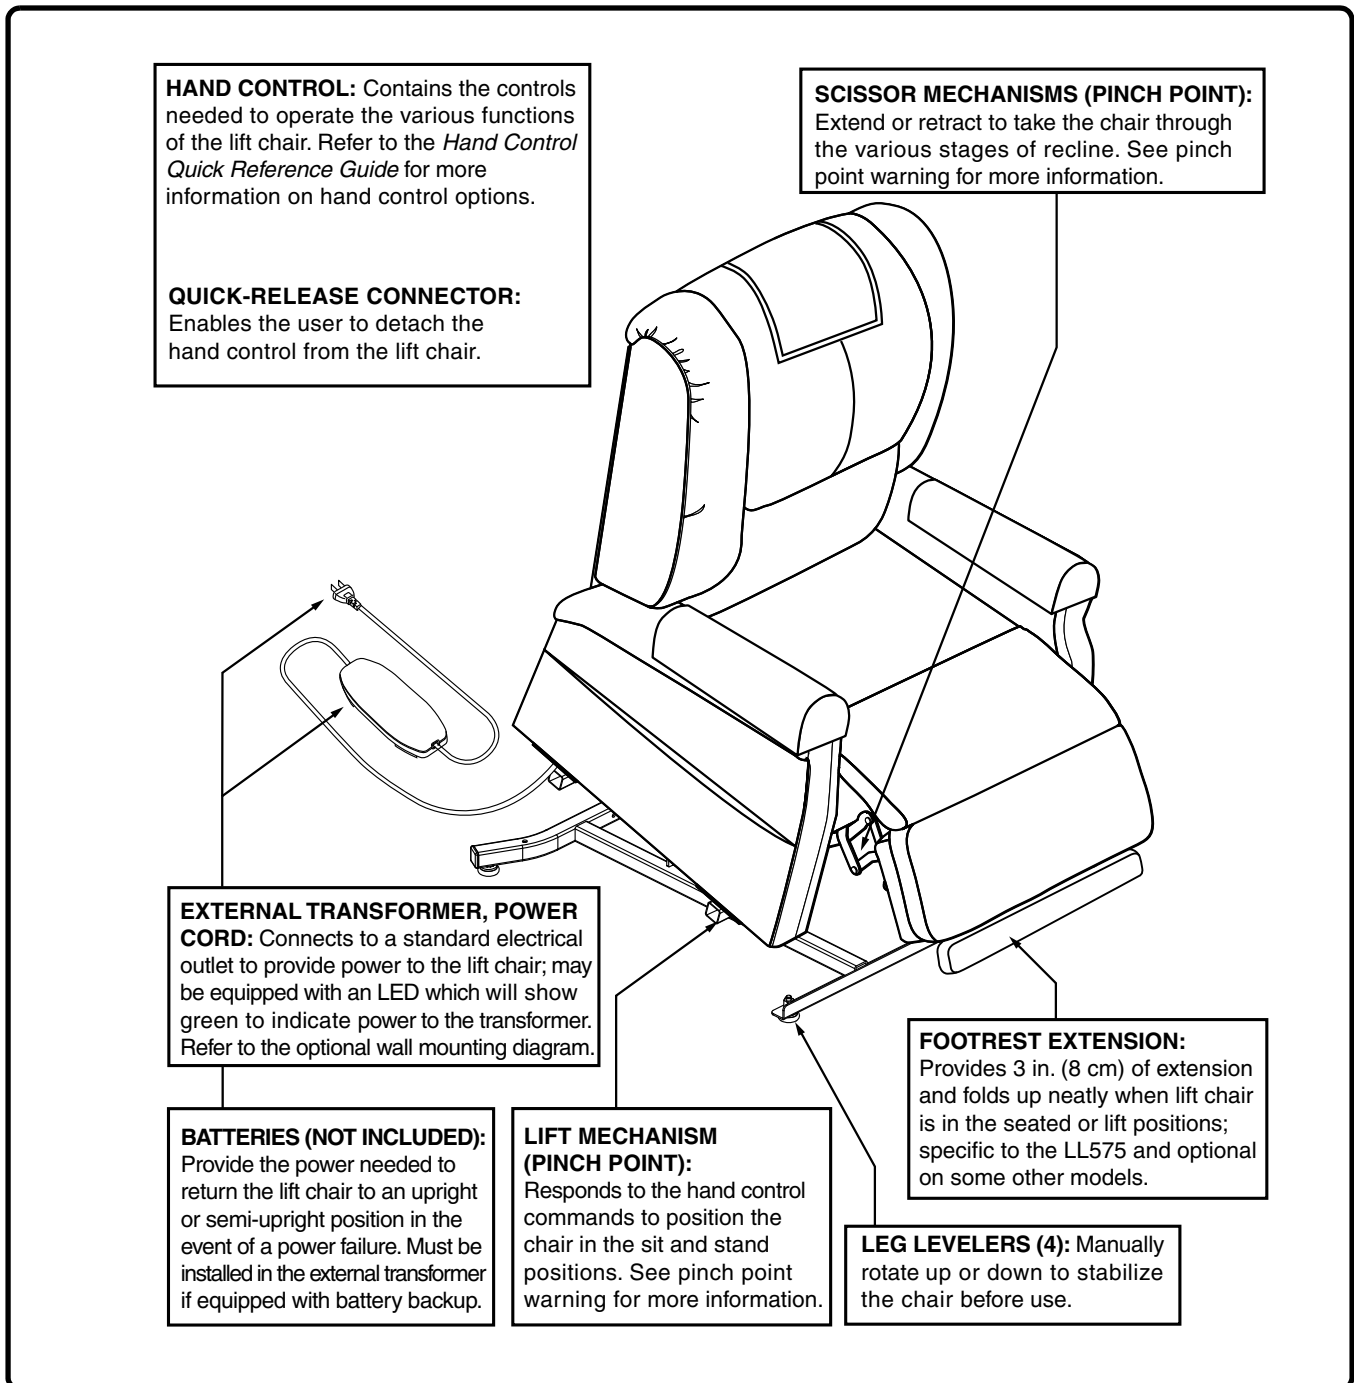

Figure 3.1 Lift Chair Main Components
The scissor and lift mechanisms are labeled as pinch/crush point hazards on your lift chair. Keep clear of these areas and make sure the path of motion is unobstructed. See **figure 3.1** for pinch/crush point locations.
Lift chairs are equipped with several frame and electrical components. Typically, frame (or body) components include a removable back pad\*, removable chaise pad\*, footrest, leg levelers, a lift mechanism, and scissor mechanisms. The electrical components include the external transformer, hand control, and batteries‡(not included). Refer to **figure 3.1** and note that the illustrations and options listed may not reflect the type of lift chair that you own.
2. Adjust the leg levelers to stabilize the lift chair (**Fig. 3.1**).